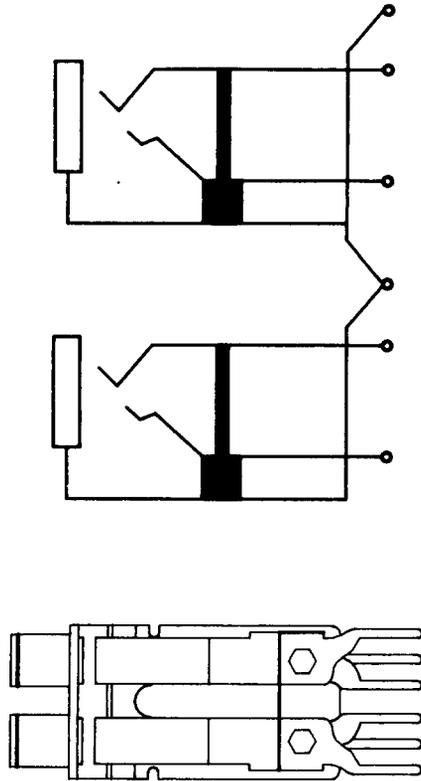

Fig. 9—637AM Jack
2.09 637AM: The 637AM is a twin jack (Fig. 9) with a center mount frame and is used with the 338- or similar-type plugs. This jack is used with the T1C Carrier System.